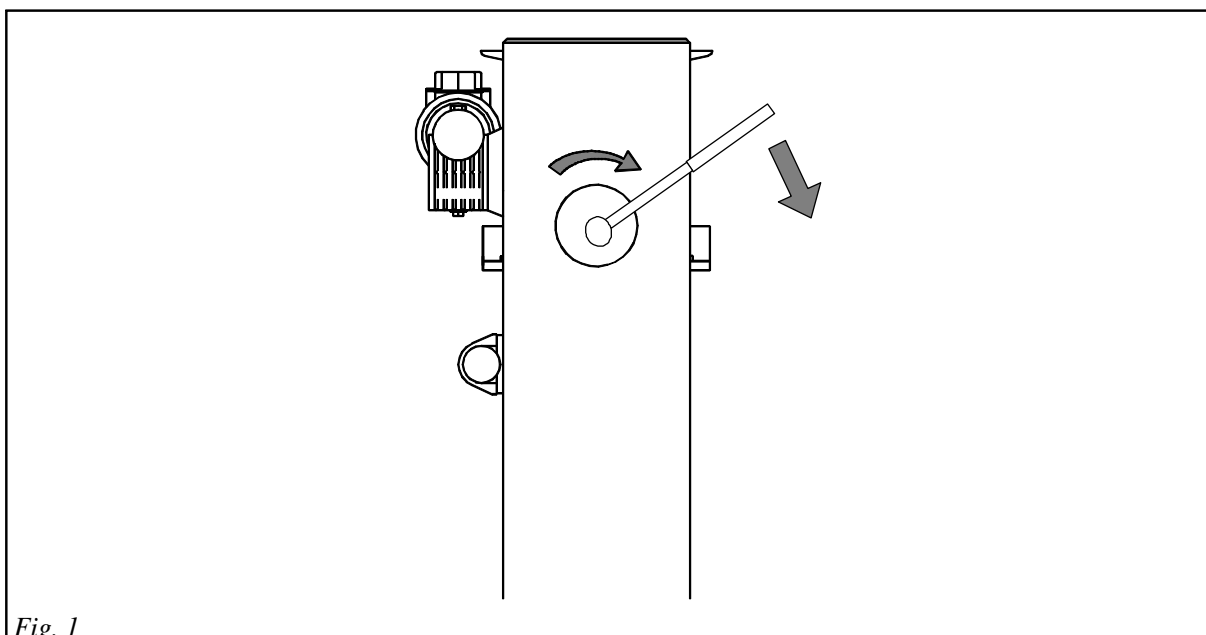

Fig. 1
- b) check the correct chain pull monthly and, if necessary, provide for its adjustment by turning clockwise the turn buckle (code 01010596, table. 5) placed outwardly on the left side of the machine. Use a dynamometric wrench by applying a torque of  $1.5 \div 2.0\text{kgm}$ . approx. (Fig. 1)